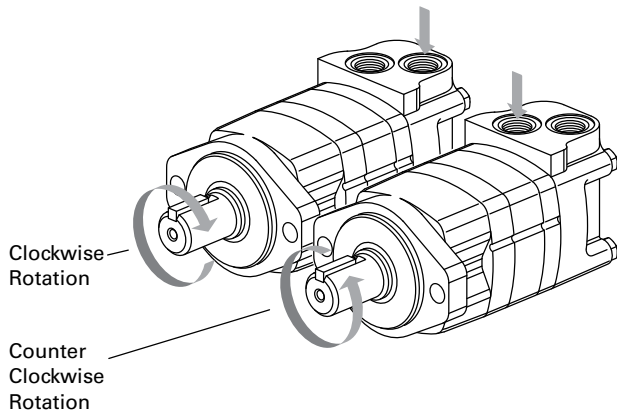

Figure 13.
**Timing Step # 3** — Locate any one of the side openings of the valve and align this opening with the open slot of the valve plate that is in line with the largest open pocket of the Geroler. Install the valve by rotating it clockwise until the spine teeth engage (1/2 spine tooth max.). This will provide the proper rotation when pressurized as shown in Figure 13.